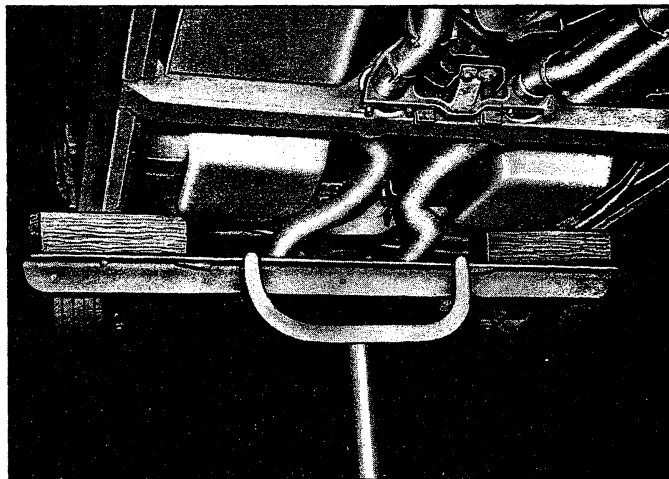

Fig. 31—Frame Lift Adapters—Corvette
- b. If rear axle work is contemplated, use either suspension adapters or drive-on adapters at the front and frame lift adapters as shown in Figure 31. If frame lift adapters are not available, use jack stands.
NOTE: Wooden blocks, bolted to steel beam shown in Figure 31 are necessary to allow beam to clear exhaust system.